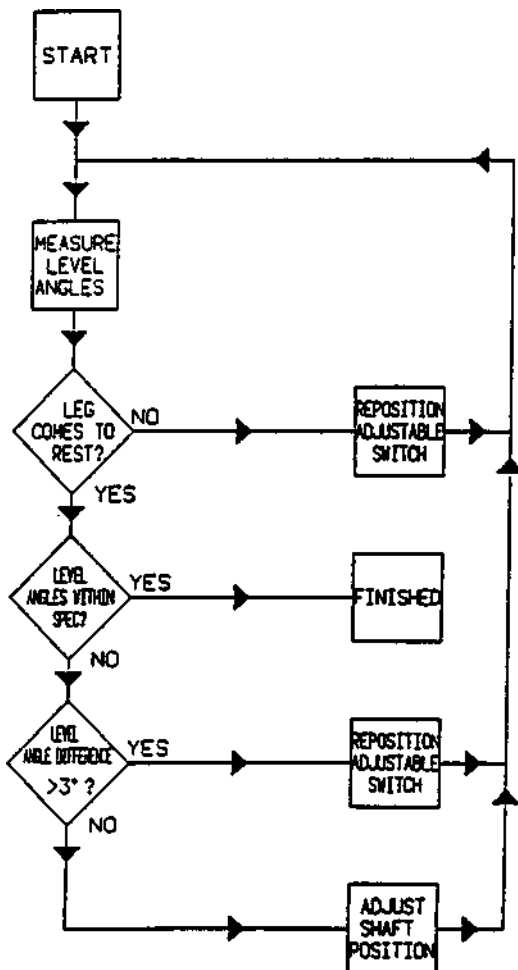

Figure 8-4. Leg Level Position Adjustment Procedure for Return to Level
- See Figure 8-4 & 8-5 for information and a picture of the environment and hardware dealt with in this procedure.
2. Leg Level Position Adjustment – Refer to Figure 8-4 for a flow chart of the adjustment procedure of paragraph 2.